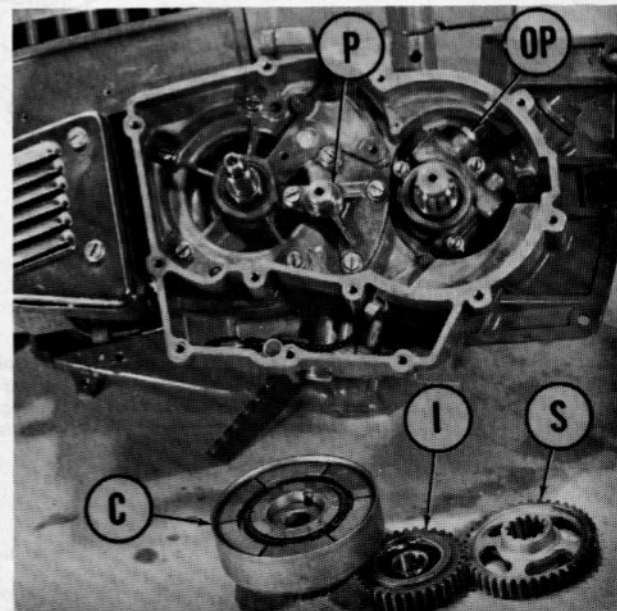

Fig. HL68—View of gearcase with clutch, idler gear and sprocket gear removed.
(29—Fig. HL64) can be removed if necessary. Turn nut (19) clockwise to remove and lift idler gear assembly (16) off idler post (11). Bearing (17) can be removed from idler gear after removing snap ring (18). Remove retaining ring (14) and pull sprocket gear (13) from sprocket shaft (10). See Fig. HL68.
shown in Fig. HL68. Refer also to exploded view in Fig. HL64.